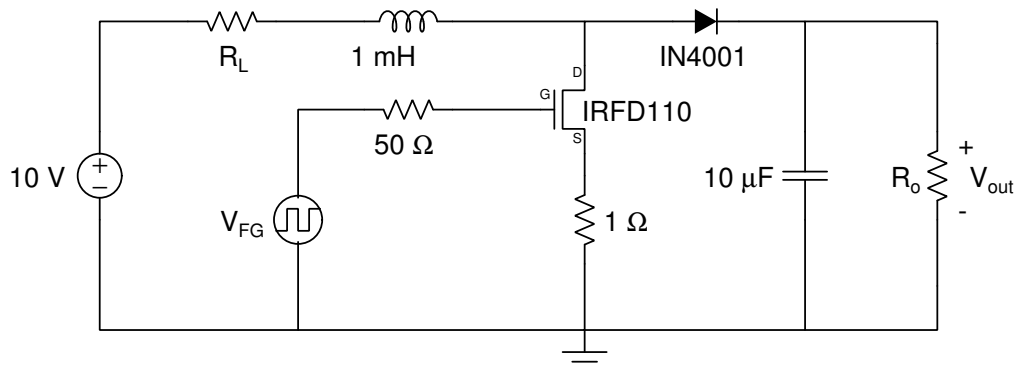

Figure 3: Boost converter circuit for NGSpice simulation and for implementation.
- (f) The period of the square wave (T) used to drive switch S_1 is $t_1 + t_2$; the frequency (f) is $1/T$ and the duty cycle (δ) is t_1/T . What are T , f , and δ for the FG?
2. Use NGSpice to simulate the boost converter circuit shown in Figure 3. Include the ESR of the inductor. Also include a $1\ \Omega$ resistor between the S terminal of the transistor and ground to allow for the simulation of the current through the transistor.
1. Build and test the boost converter circuit shown in Figure 3 using the component values and FG settings determined in step 2i of the Pre Lab.